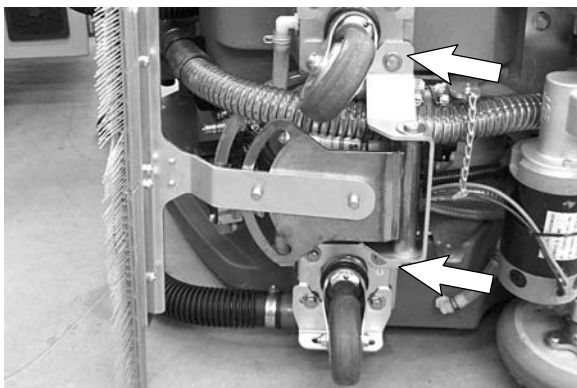

Fig. 2
5. Using the same screws and washers, mount the carpet rake assembly to caster brackets as shown (Figure 2).